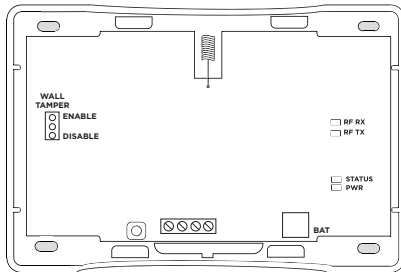

Figure 1: 1100R Wireless Repeater
2. Secure the 1100R to the wall using the supplied screws in the mounting hole locations shown in Figure 1.